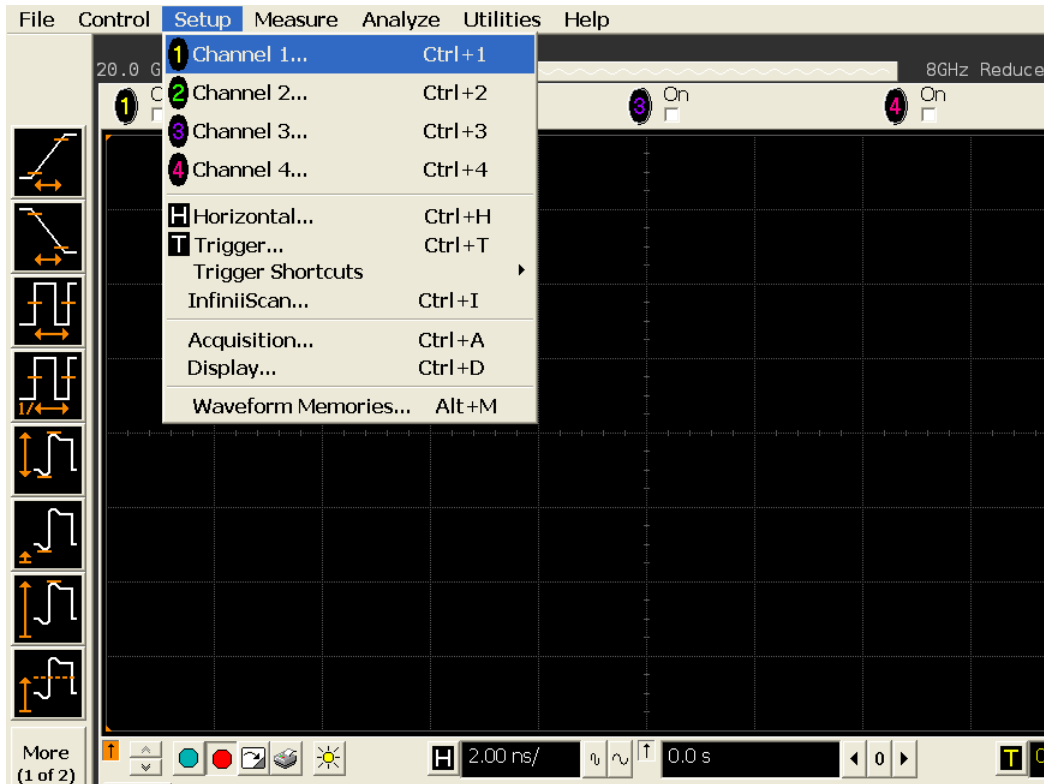

Figure 94 Channel Setup Window.
- 1 On the Infiniium oscilloscope in the Setup menu, select the channel connected to the probe, as shown in Figure 94.